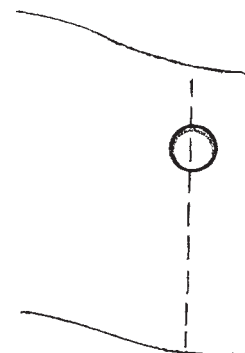

FIG. 2 Straight Stitch
**buttonhole stitch**, *n*—*in home sewing*, a complex machine stitch pattern made by coordinated motions of needle and feed, appearing as very close stitches forming a narrow rectangle of stitching that is usually composed of four stitch segments, one on each side and on each of the two ends of the rectangle. (See Fig. 2.)